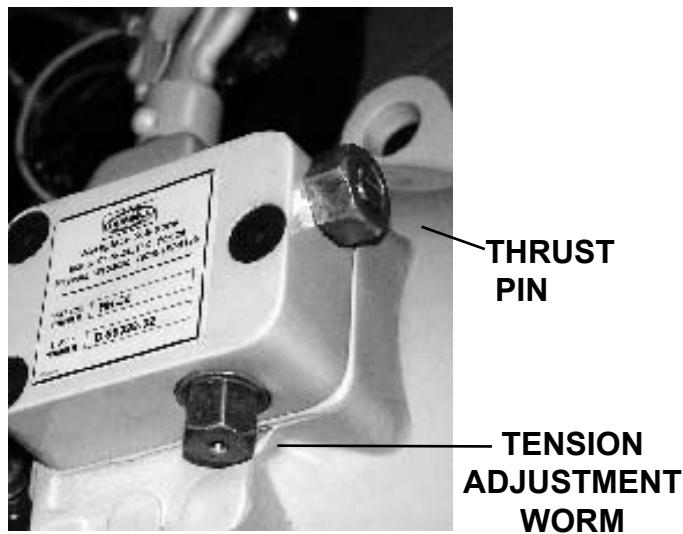

Figure 3
1. Tension is adjusted by turning the hex drive on the housing at the rear of the balancer (Fig 3). To increase tension, turn the hex drive in a clockwise direction. To decrease tension, turn hex drive counter-clockwise.
Do not adjust thrust pin (Fig 3). The thrust pin holds the tension adjustment worm in place and has been factory adjusted.